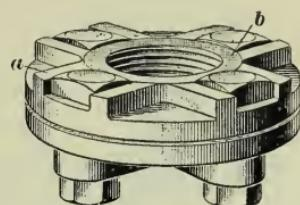

FIG. 41
**55.** **Flange unions** consist of cast plates having a threaded hole for the pipe, and are faced on one side; they are clamped tightly together by bolts, the bolt holes being either cored or drilled. Some flange unions have pockets on the outside of one flange, as shown at *a*, Fig. 41, in order to prevent the bolt from turning while the nut is being